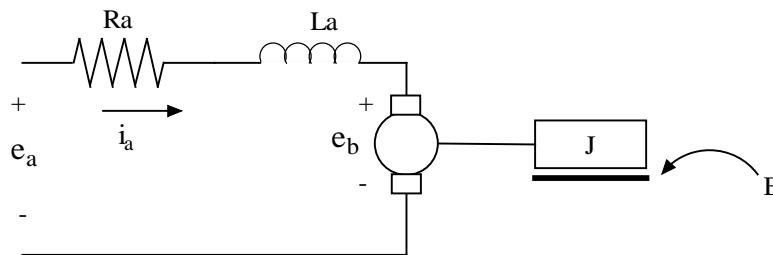

Figure 1: D.C. Motor Diagram
4. Write the 4 electrical and mechanical equations that may be used to find the transfer function of the DC motor  $\omega(s)/E_a(s)$ . Use Figure 1, the equations provided in this lab, and the example mentioned in section 1.4 of this lab as a guide.